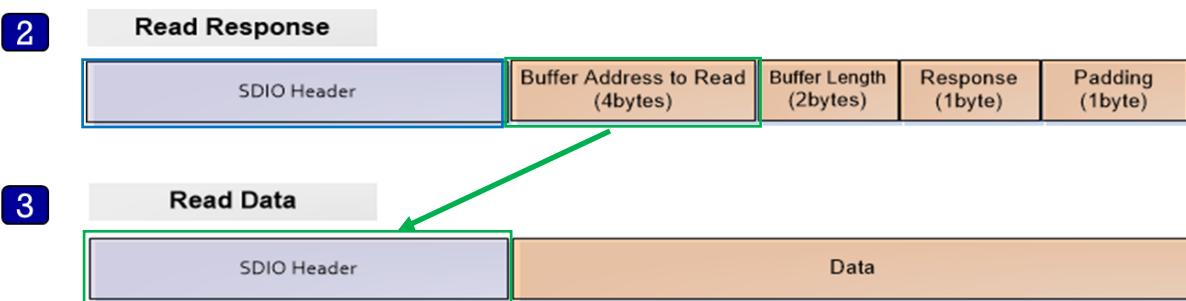

Figure 16: Structure
2. The Host reads the response message from Response Command address (0x50080258, blue rectangle in Figure 16), and parse it using `struct _st_host_response` (see Table 11).
3. The Host reads data from address (BUFF_ADDR) which is received from Slave in the response message (green rectangle in Figure 16).